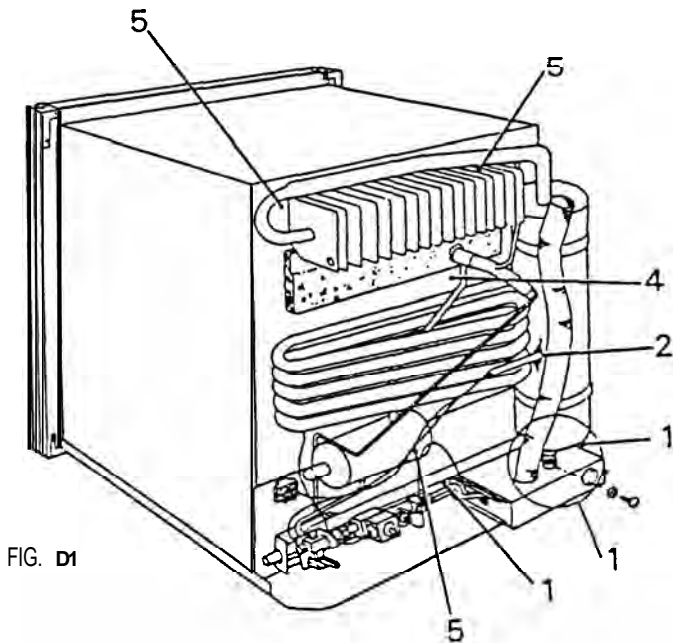

FIG. D1
1. Remove cover and flue tube, then disconnect burner from chimney (FIG. D1).
2. Remove heater(s) from boiler case (FIG. D1).
5. Remove one (1) screw and bend two (2) tabs and then pull cooling unit out (FIG. D1).